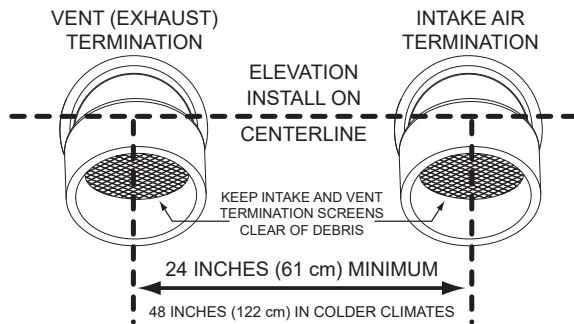

Figure 28. Side-Wall Termination - Direct Vent: Standard Terminations
4. If installing both an intake air and vent termination in a Direct Vent configuration through a sidewall there must be a minimum of 24 inches (61 cm) separation, measured on vertical center line, between the intake air and vent terminations, see **Figure 28**.
5. If installing both intake air and vent terminations in a Direct Vent configuration through a sidewall, the intake air and vent terminations must be installed at the same elevation measured on horizontal center line - see **Figure 28**.
- However, the distance between the closest vent and intake air terminations must be a minimum of 24 inches (61 cm). In colder climates this separation should be increased to at least 48 inches (122 cm). See **Figure 28** (page 38).